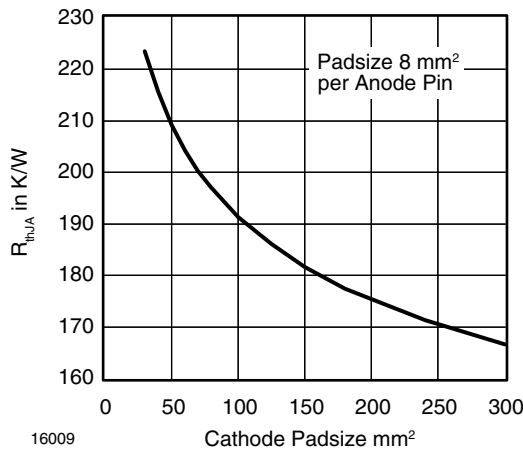

Figure 17. Thermal Resistance Junction Ambient vs. Cathode Padsize
There are different possibilities to measure the thermal resistance "junction to ambient". A simple method is to assume that R_{thjp} for the tested device is known from data sheet. Solder a very thin thermocouple on one cathode pin of the hottest LED in your PCB. The solder point should be close to the surface. After measuring the pin temperature, the ambient temperature and the power, the R_{thpa} can be calculated as: $R_{thpa} = (T_p - T_a)/P$. With equation (4) the thermal resistance junction to ambient can be calculated. The thermal resistance junction to ambient vs. cathode pad size is shown in Figure 17, $T_j = T_{ak} + R_{thjp} * P$. The anode pad is not contributing to heat dissipation.
Proper PCB design can reduce the R_{thja} of a lamp assembly and finally this will lower the junction temperature of the LED chip. The Thermal resistance "junction to ambient" as a function of cathode pad size is shown in Fig 17. Since the most of the electrical power in the LED is dissipated as heat, the LED's should be spaced as far as packaging and optical constrains will allow. 10 mm and 15 mm are ideal in x, y and it is helpful to design large metal pads to keep the temperature on the PCB on a low level.